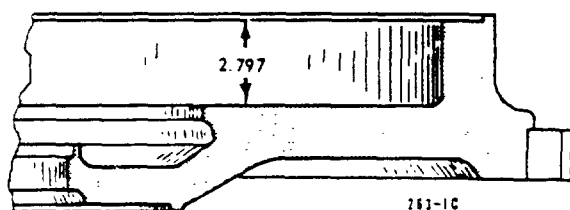

Figure 5-16. Flywheel Rubbing Surface-to-Clutch Cover Bolting Surface Dimension
6. If flywheel is warped or heat checked and surface is refinished, maintain the 2.797 inch dimension between disc surface and bolting face for proper release lever adjustment. See Figure 5-16. No more than .070 inch maximum may be removed by grinding.